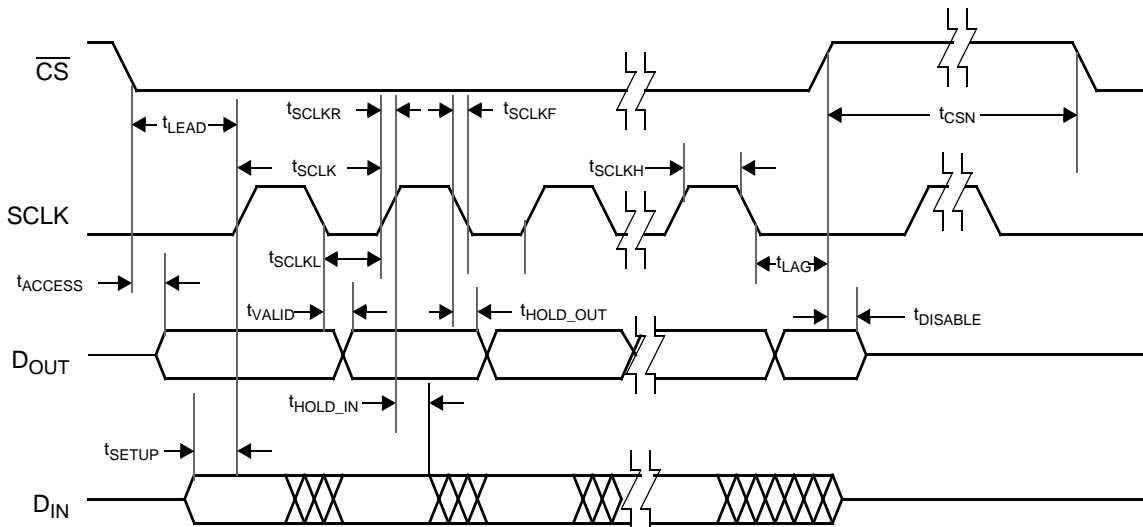

Figure 6. Serial Interface Timing
| 132 | Serial Interface Timing (See Figure 6, $C_{DOUT} \leq 80$ pF, $R_{DOUT} \geq 10$ k Ω) Clock (SCLK) period (10% of V_{CC} to 10% of V_{CC}) | t_{SCLK} | 320 | — | — | ns | (9) |